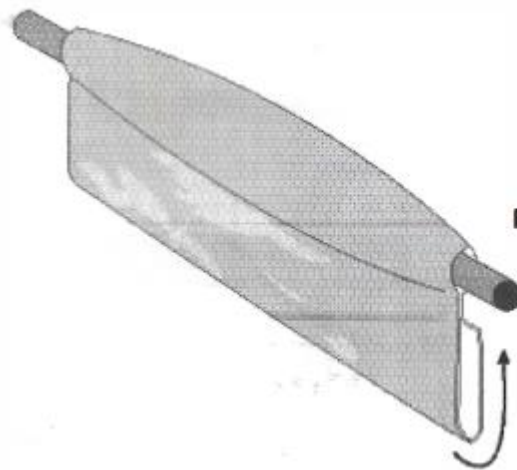

Figure 10A
21. Starting in the center of the gel sheet fold the excess of the sheet up against the splice, use one lap of vinyl tape to hold in place. (Figure 10A).